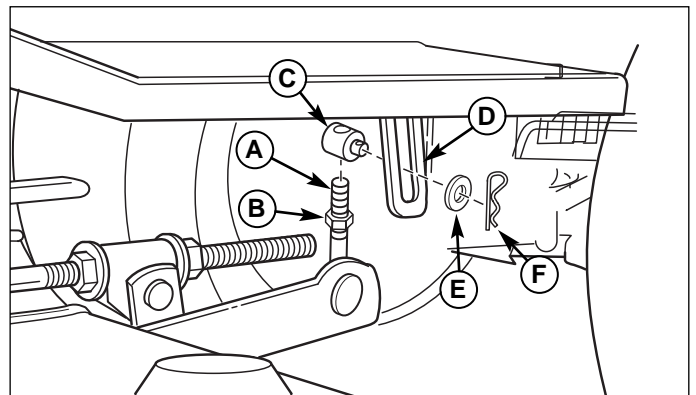

Figure 37. Cutting Height Adjustment
The transport height and ground following ability can be adjusted. Raising the trunnion (C, Figure 37) on the j-hook (A) will adjust the deck into the greatest ground following ability and the lowest transport position, when the deck is lowered. Lowering the trunnion on the j-hook will give the highest transport position and decrease the deck's ground following ability, when the deck is lowered.
1. Loosen jam nut (B, Figure 37).
2. Remove the hair pin (F) and washer (E) from trunnion (C).
3. Remove the trunnion (C), j-hook (A) and jam nut (B) from tractor lift arm (D).
4. Turn trunnion (C) up or down to adjust height.
5. Place trunnion (C), j-hook (A) and jam nut (B) in tractor lift arm (D). Install washer (E) and hair pin (F). Tighten jam nut (B).